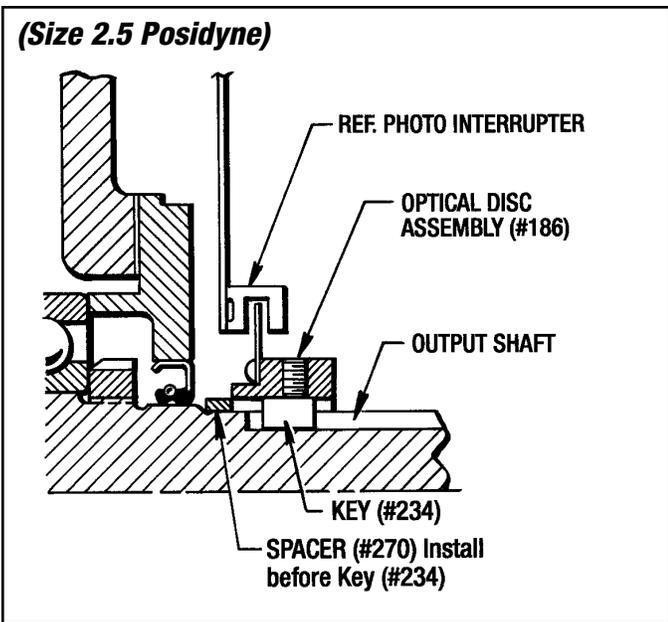

Figure 6.4 - Optical Disc and Hub Positioning (Size 2.5 Posidyne)
- First slide the Spacer (#270) onto the output shaft as far as it will go. Install Key (#234), then slide the Optical Disc Assembly onto the output shaft, butting it up against the Spacer. (See *Figure 6.4*)